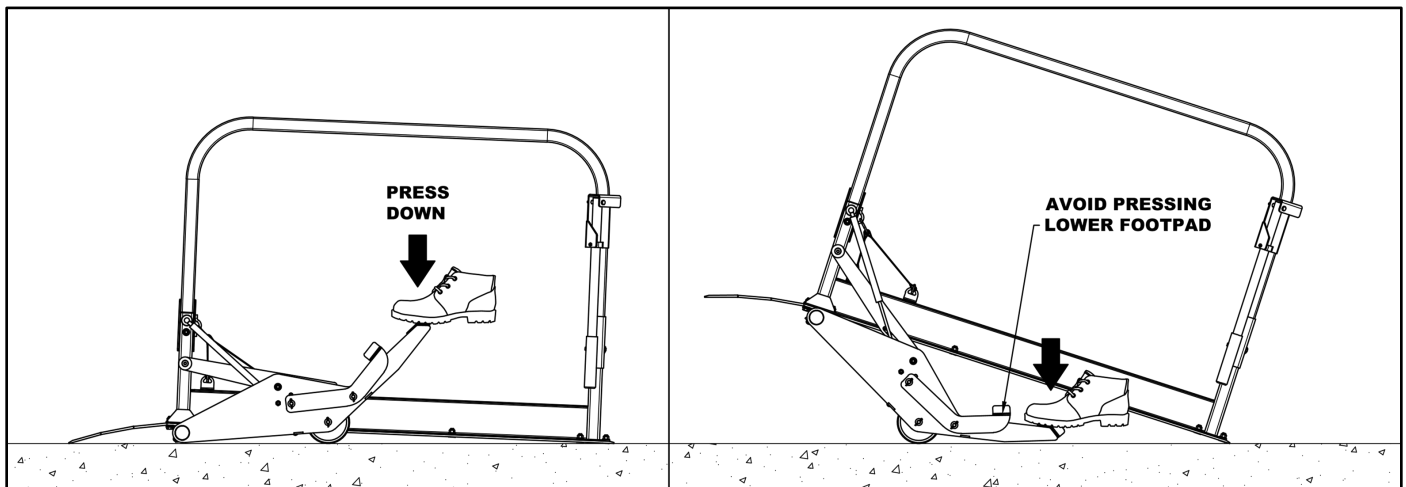

Figure 1
1. Engage wheels by pressing down on the GREEN footpad until the lip of the truck board is raised off the ground and the wheels are locked (see Figure 1).